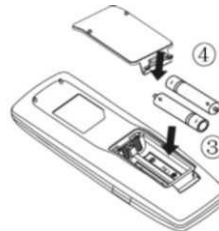

Fig. 2
- (3) Insert two AAA batteries (1.5V), making sure that the position of the "+" and "-" poles is correct (as shown in Fig. 2 ③).
- (4) Reinsert the cover (as shown in Fig. 2 ④).